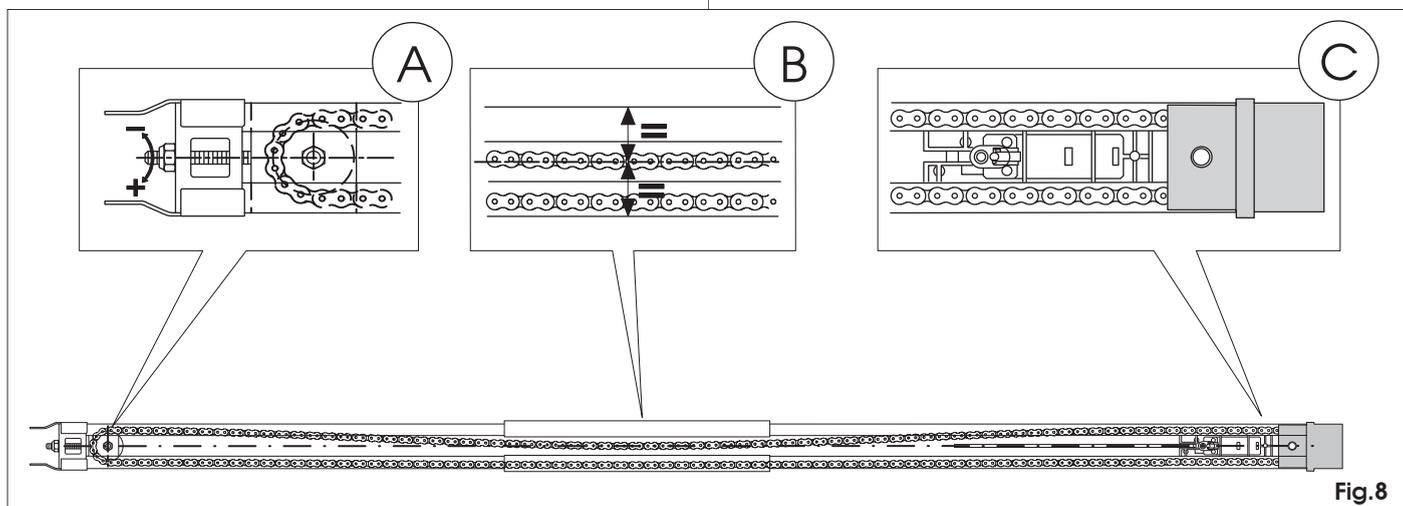

Fig.8
- 5) Place the sliding guide on the side (Fig. 8).
- 6) Push the carriage toward the drive clutch unit (Fig. 8 ref. C).
- 7) Adjust the tensioner (fig. 8 ref. A) so that the central zone of the loop, formed by the top branch of the chain, coincides with about the mid-point of the sliding guide (Fig. 8 ref. B)